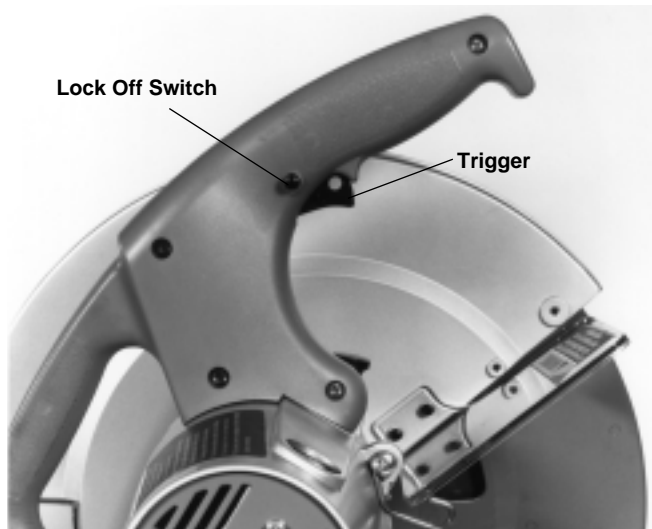

Figure 4 – Switch Controls
NOTE! Switch Action (*Figure 4*)
- To start the tool, firmly grasp the handle then depress LOCK-OFF switch button. Keeping the LOCK-OFF switch button depressed, pull the trigger switch (*Figure 4*).
1. To start the tool, firmly grasp the handle, then depress LOCK-OFF switch button (*Figure 4*). Keeping the LOCK-OFF switch button depressed, pull the trigger switch. Be sure to allow the motor to reach maximum speed prior to cutting (*Figure 5*).